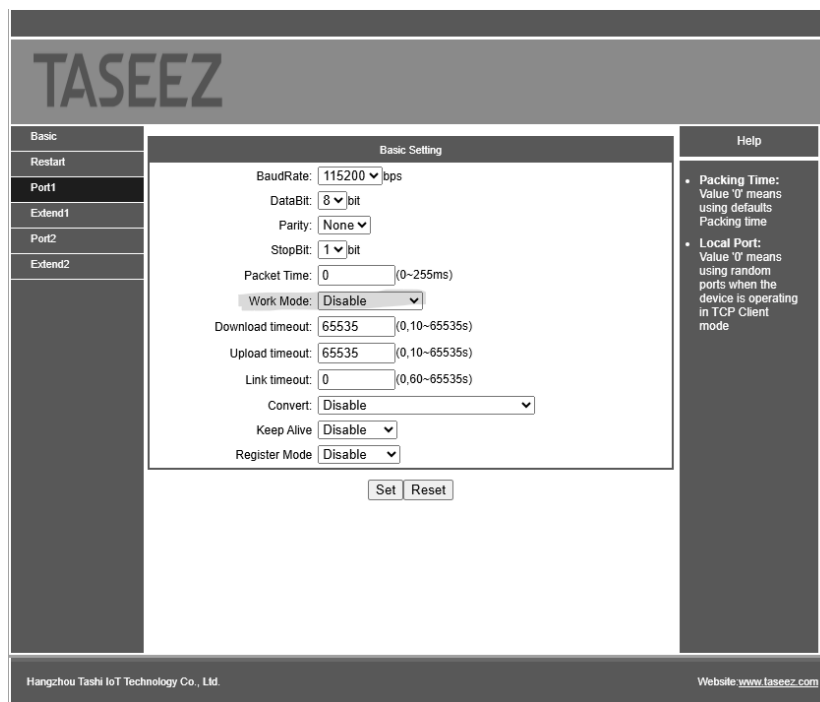

Figure 15
- a. If setting up the device using the webpage, navigate to the “Port1” tab to disable the RS232 port. Figure 15.